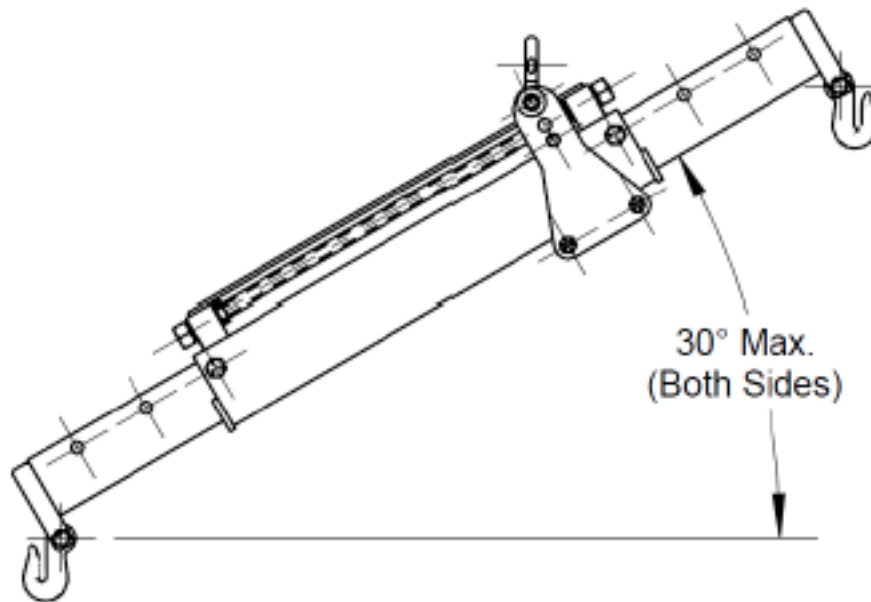

Figure 2
- **DO NOT** adjust the Load Leveler to an angle greater than 30 degrees. See Figure 2.